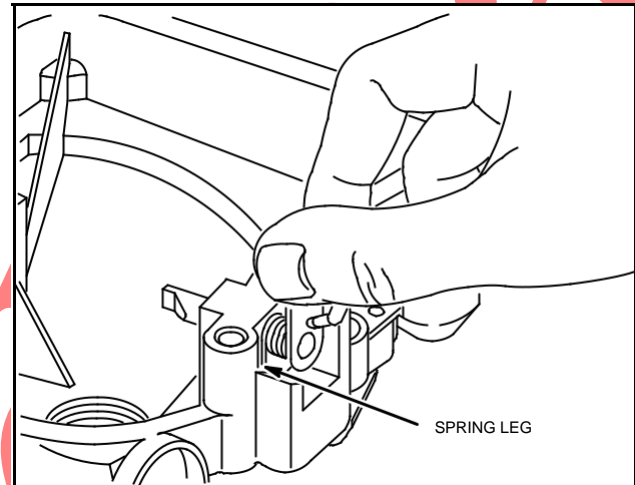

Fig. 166 - SPRING INSTALLATION
7. Install "E" ring. Leg of spring may need to be pushed against sump, Fig. 166.